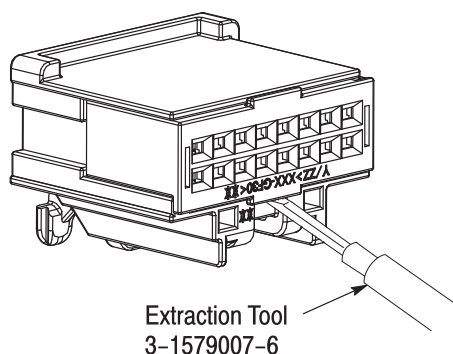

Figure 2
1. Place Extraction Tool 3-1579007-6 in the gap between the housing and behind the tab on the TPA. See Figure 2.